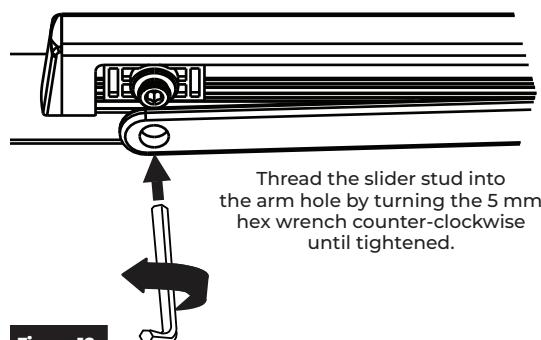

Figure 18
14. Move the arm in position under the slider stud. Insert the 5mm hex wrench through the threaded hole in the arm and into hex on the stud. Rotate counter-clockwise until tightened. (Figure 18)